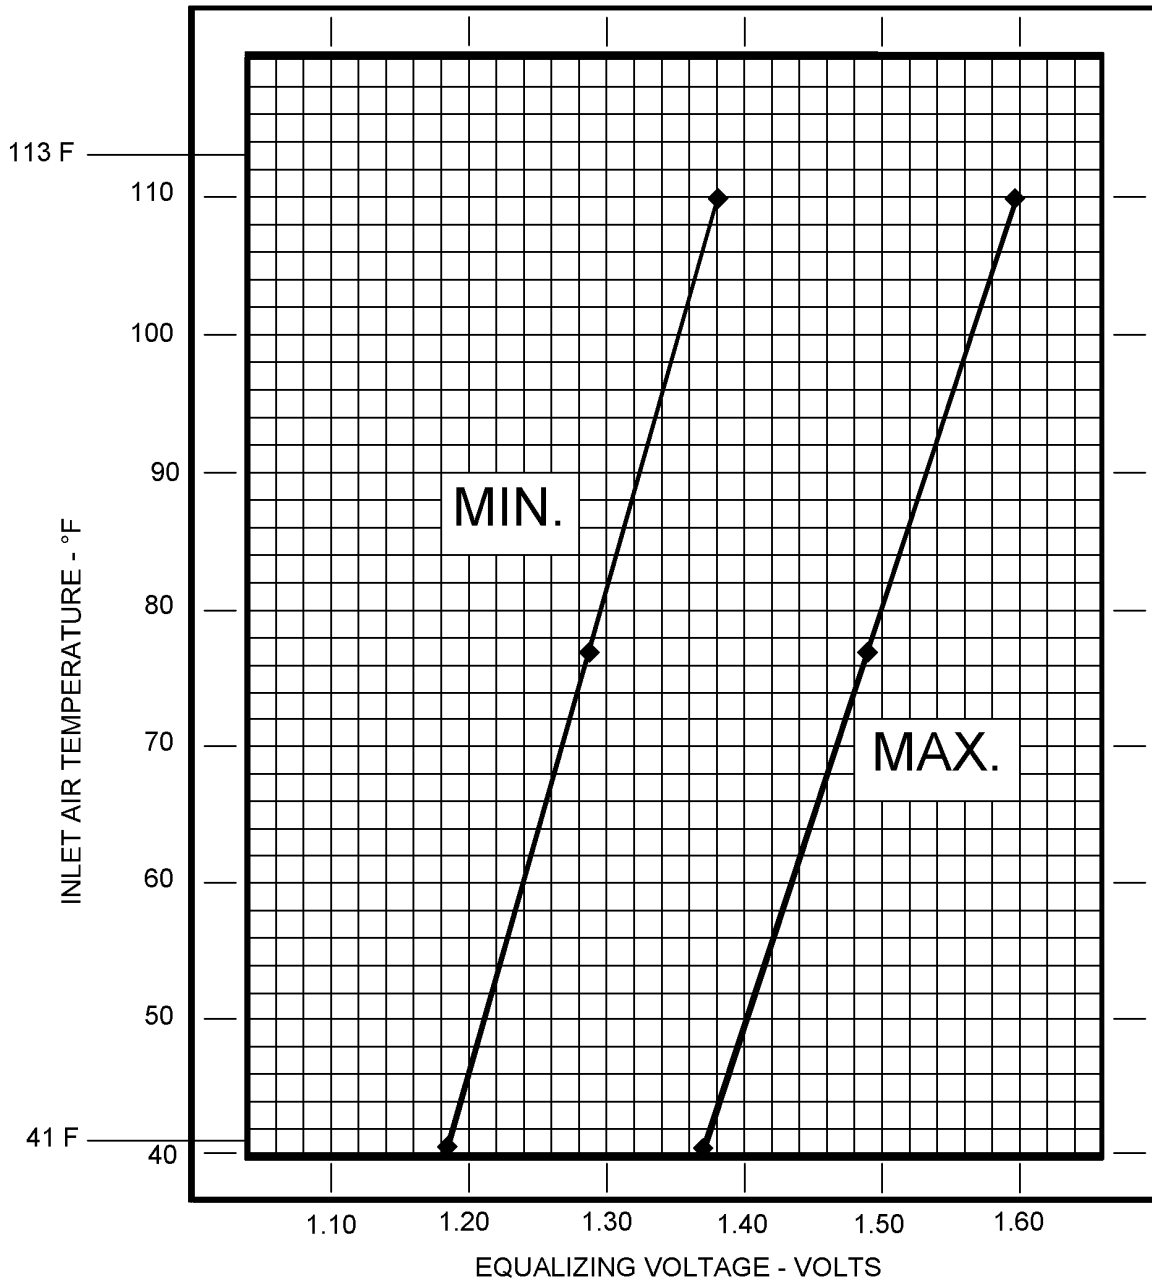

Figure 8 - Equalizing Voltage Diagram
- (1) Continuous Operating Speed, Equalizing Voltage, and Minimum Speed:
- (b) Measure and record voltage between terminals D and E: Voltage must be within limits in Figure 8.